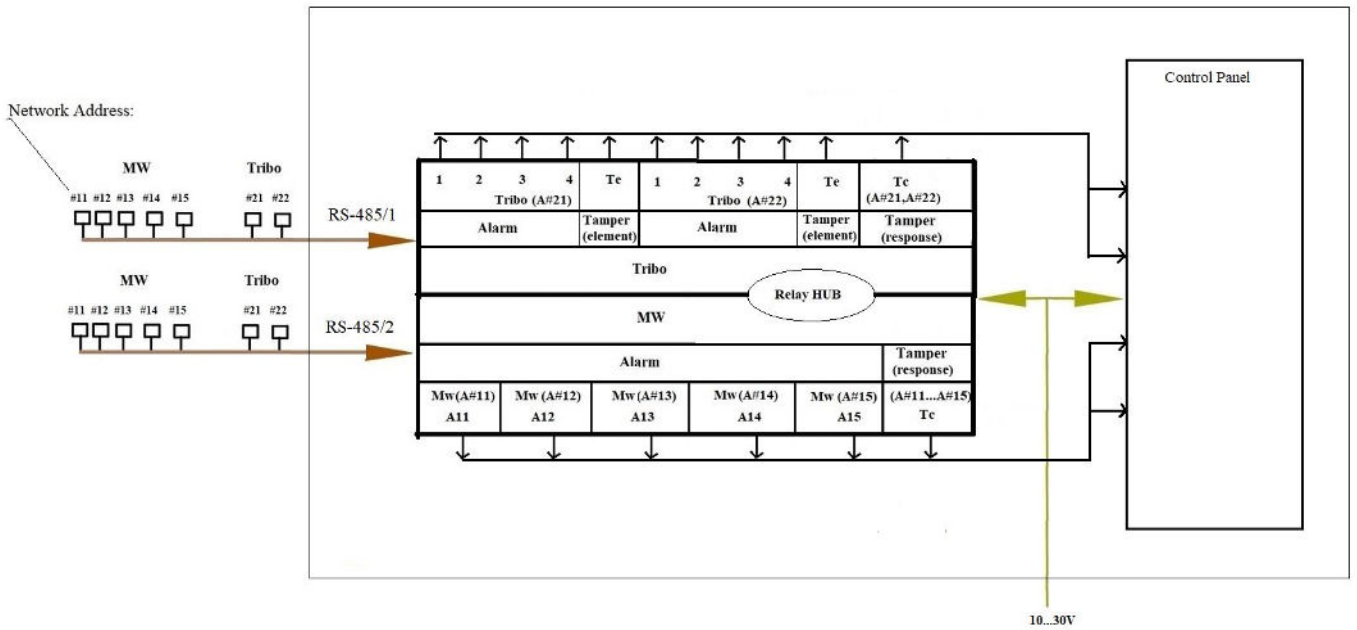

Figure 1.4 – Product connection layout
1.4.8 The product connection layout is shown in Figure 1.4.